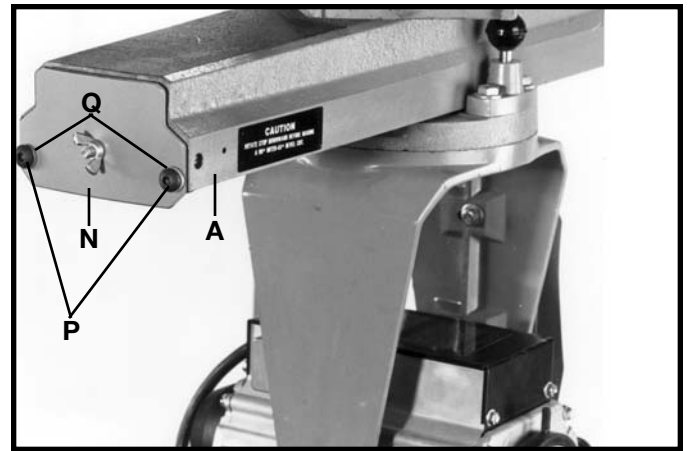

Fig. 12
8. Assemble end cap (N) Fig. 12, to the rear of track arm assembly (A) and fasten with two 5/16-18x3/4" button head screws (P) and 5/16" lockwashers (Q) supplied.